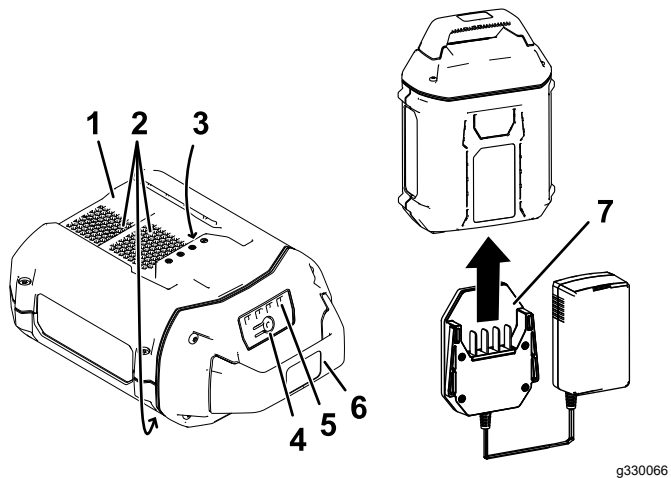

Figure 14
2. Line up the charger with the cavity on the back of the battery pack (Figure 14).
3. Slide the charger into the battery pack until it is fully seated (Figure 14).